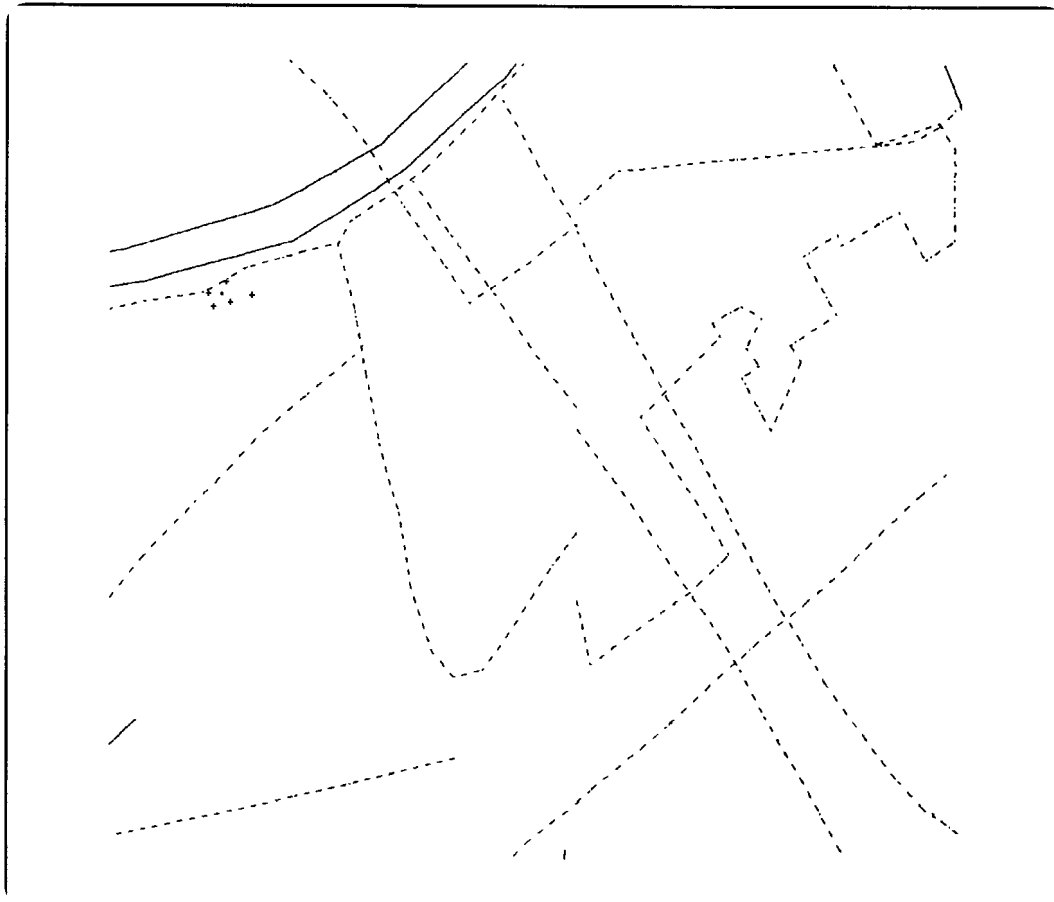

Figure 18 Zoomed-in view of layout of VINCENNE.DAT file, including map features.
- Type: "LAY "<Enter>. To see a close-up of the well field, as in **Figure 18**.